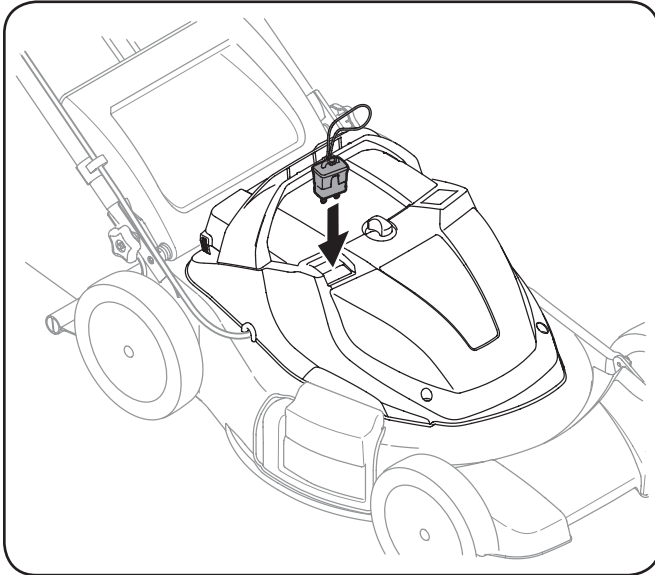

Figure 5-1
1. Insert safety key. Refer to Fig. 5-1.